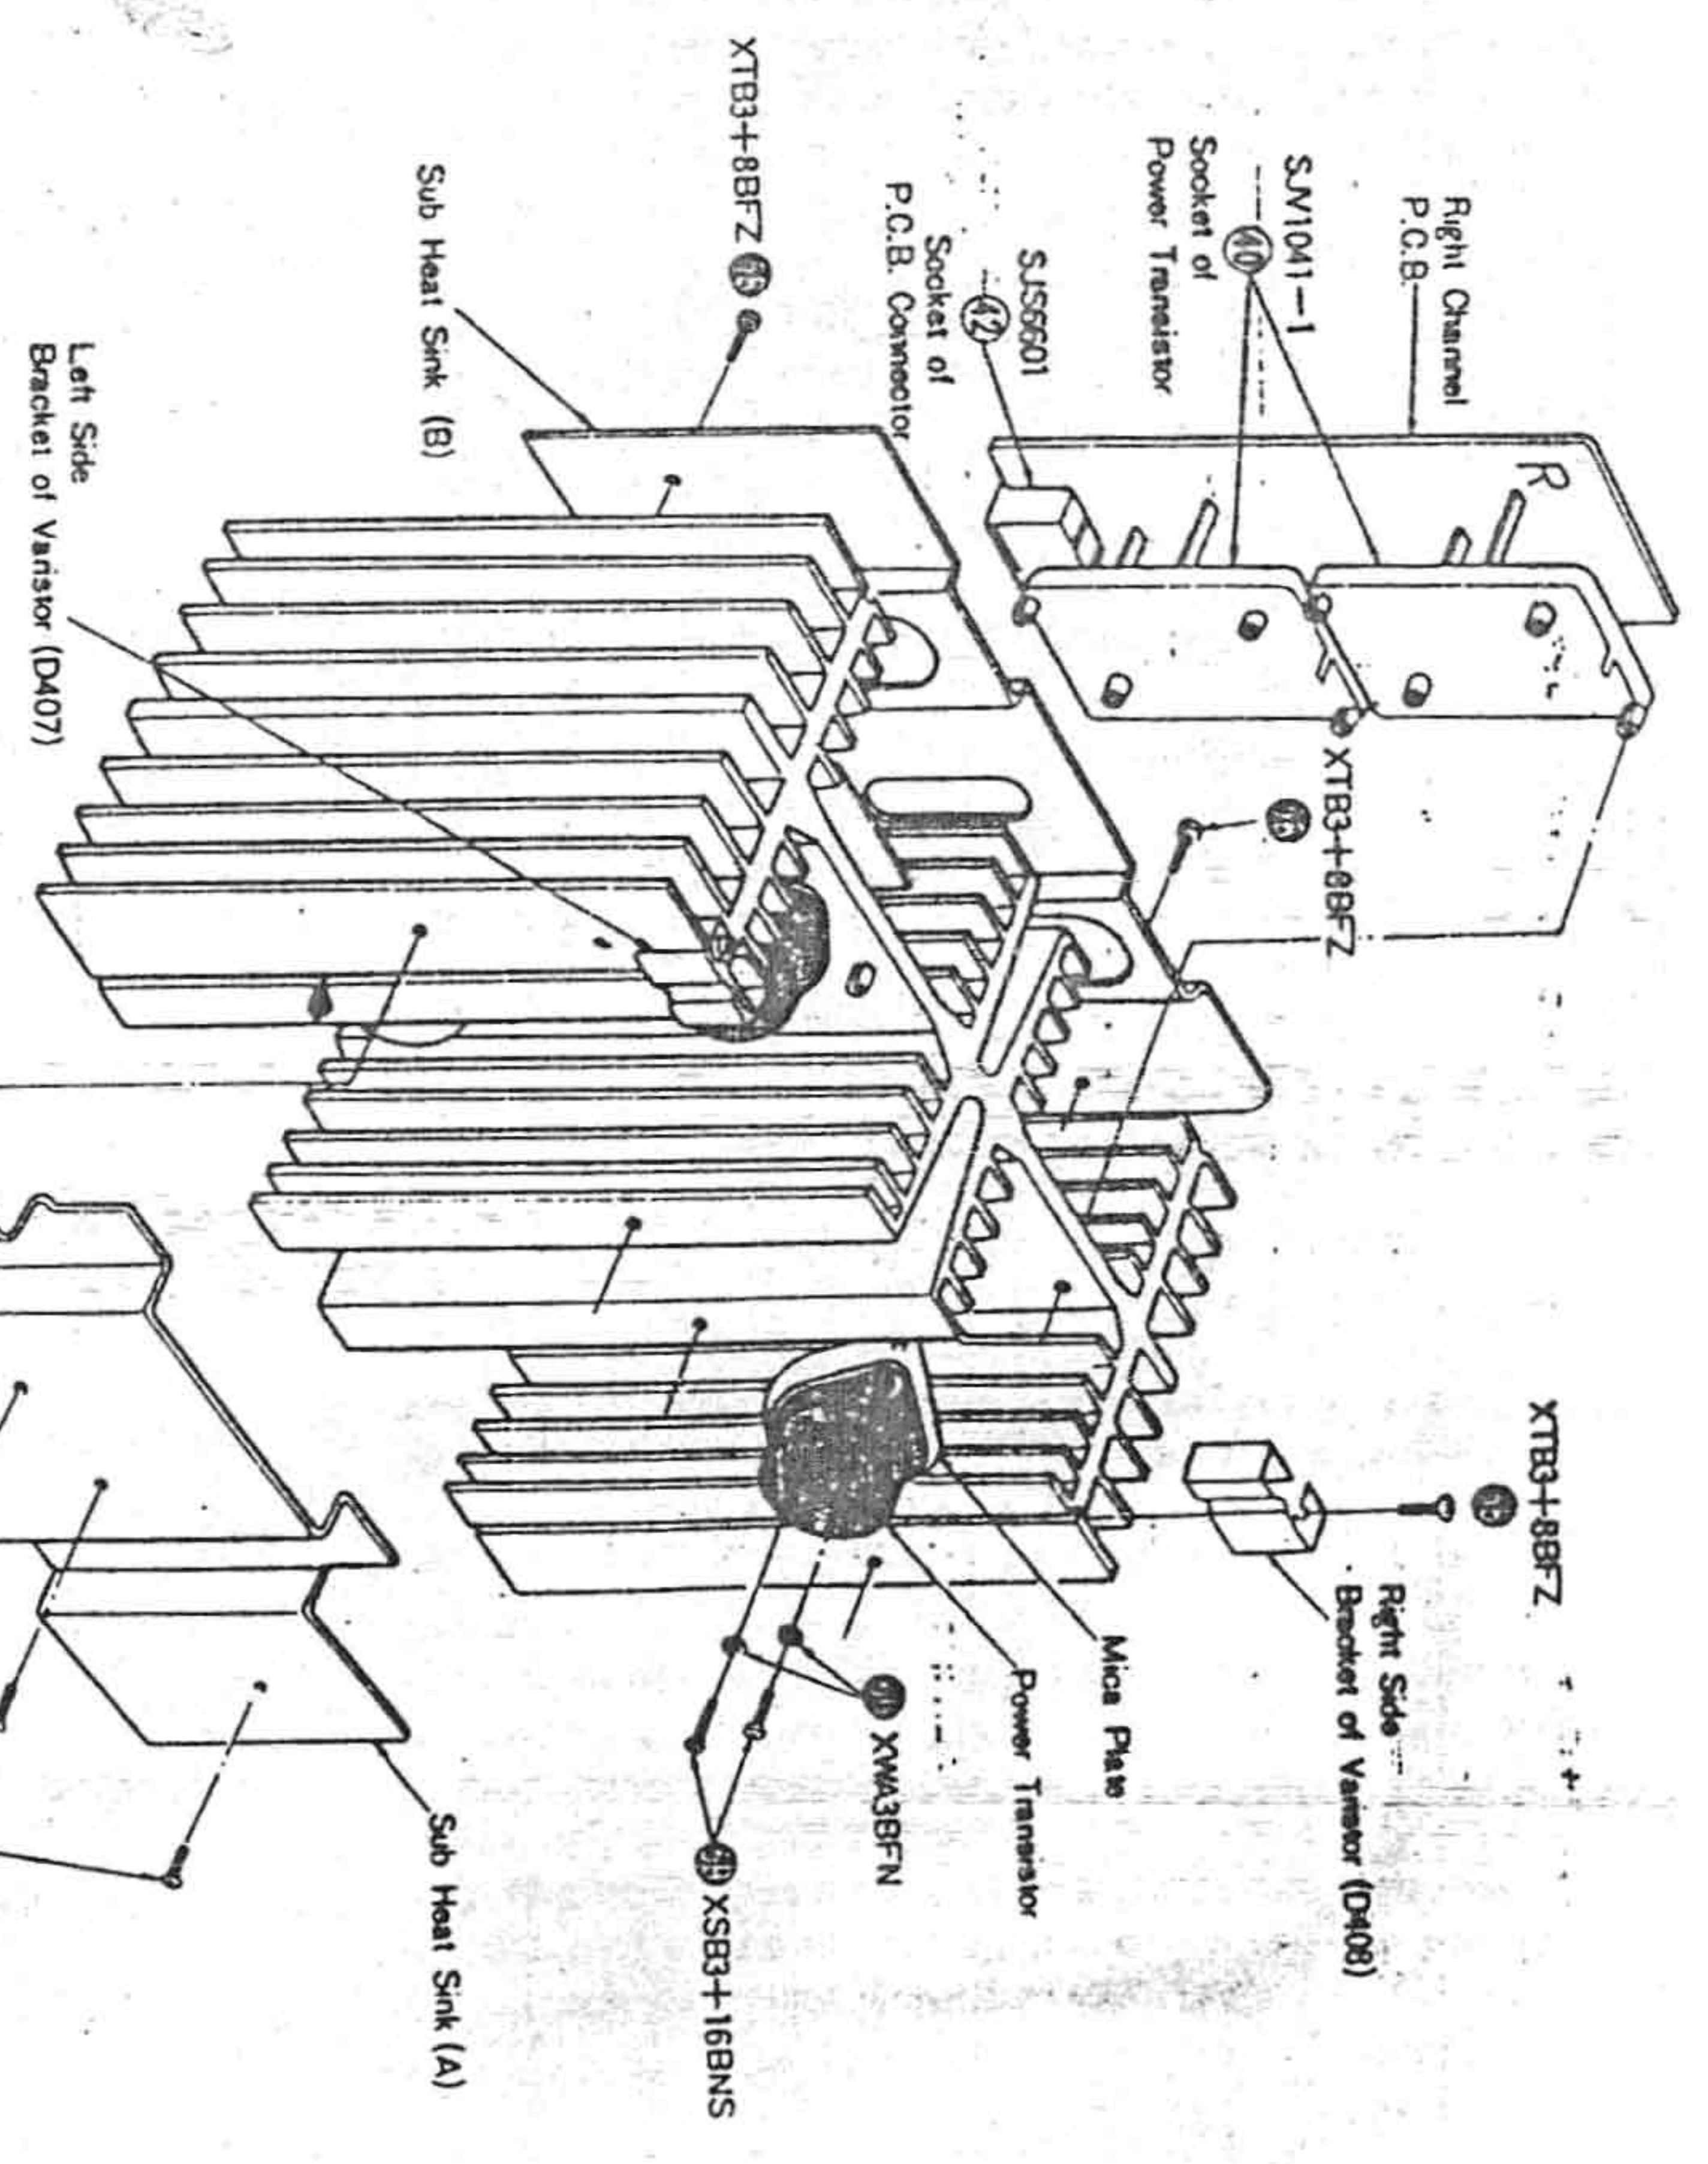

Fig. 8
5. Remove sub heat sinks (A) and (B) from the heat sink. (Fig. 8)
6. Remove the power transistor set screws and pull it out of the heat sink. (Fig. 8)